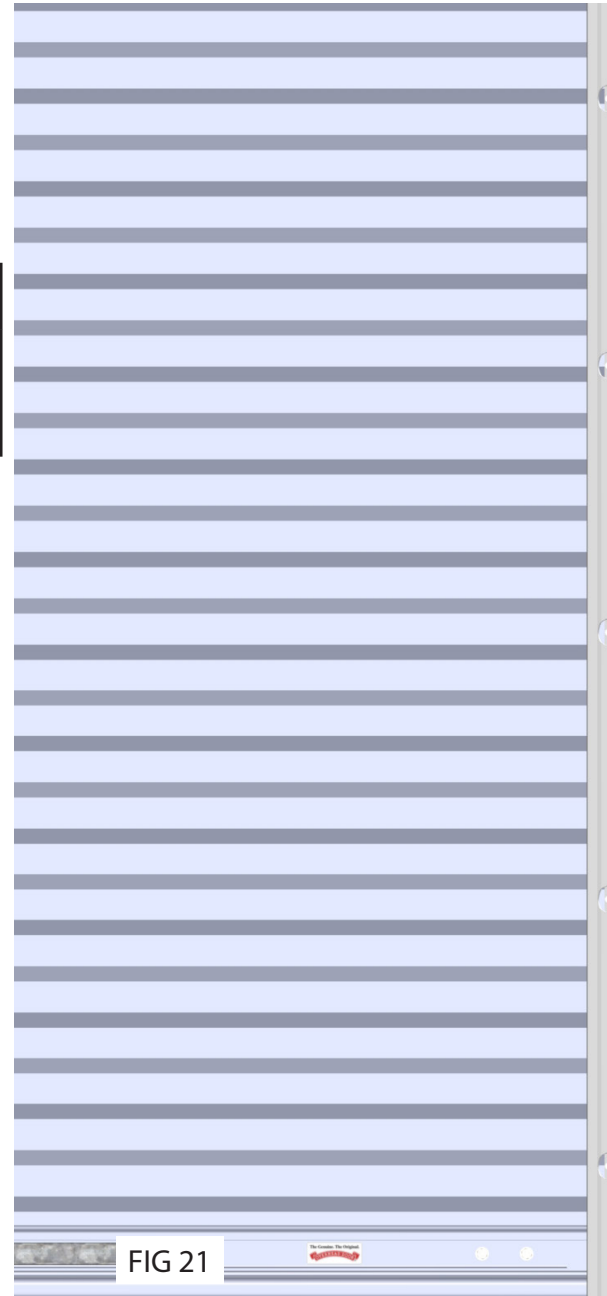

FIG 21
• Install Warning label and “Do Not Lubricate” labels on guides. Install at eye level. See Figure 21.